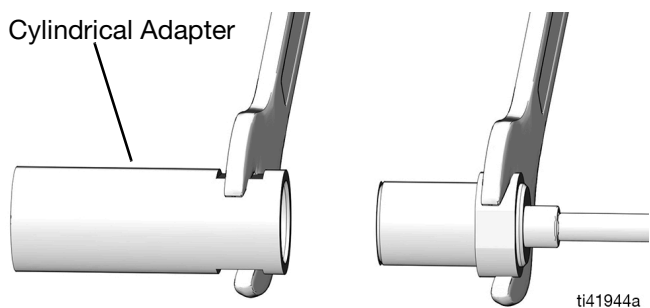

FIG. 4: Series A CSP Valve
When using the cylindrical adapter (FIG. 4):
2. Thread the proximity switch onto the adapter, and torque to within 22 to 26 in-lbs (2.5 to 3 N•m) (FIG. 4).